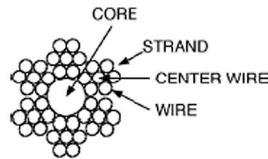

Figure 13.1: Components of wire rope
- Every wire rope has three basic components (Figure 13.1):